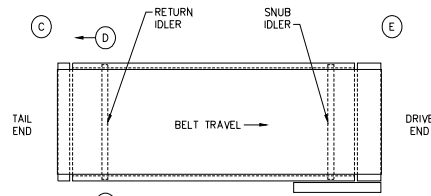

Figure 4
| <p>1) When belt is running toward drive pulley: (See "Figure 4")</p> <ul style="list-style-type: none"> If belt runs to right side (A) of tail pulley, move right side (B) of return idler toward tail pulley. If belt runs to the left side of tail pulley (C) move left side (D) of idler back towards tail pulley. If belt runs off right side of drive pulley (G) but is centered on tail pulley, move drive pulley out slightly on right side (G) using squaring adjustment. If belt runs off left side of drive pulley (E) move left side of drive pulley (E) out. <p>2) When belt is running toward tail pulley: (See "Figure 5")</p> <ul style="list-style-type: none"> If belt runs to right side (E) of drive pulley, move right side (F) of snub roller toward drive pulley. | <p>2) continued</p> <ul style="list-style-type: none"> If belt runs to left side (G) of drive pulley, move left side (H) of snub roller toward drive pulley. If belt runs to left side of tail pulley (A) but is centered on drive pulley, move left side of tail pulley (A) out slightly using adjusting screws provided. if belt runs to right side of tail pulley (C) but is centered on drive pulley, move right side of tail pulley (C) out. Follow same procedure for conveyor with center drive. IMPORTANT NOTE:When making adjustments on snub and return idlers and pulleys, make adjustments in small increments (1/16" to 1/8" and give belt time to react before adjusting further. |